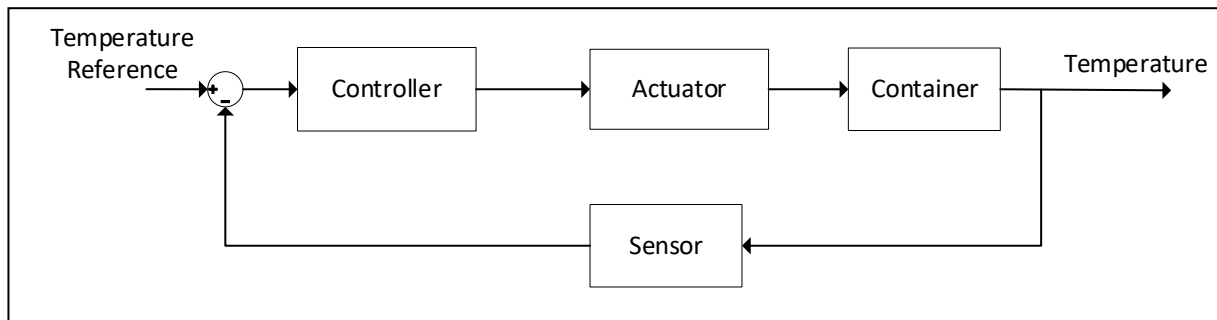

Figure 1: Block diagram of the system
2. Block diagram is given in Figure 1. Controller will be implemented on the microcontroller, actuator is ceramic resistors and sensor is the LM75A temperature sensor.